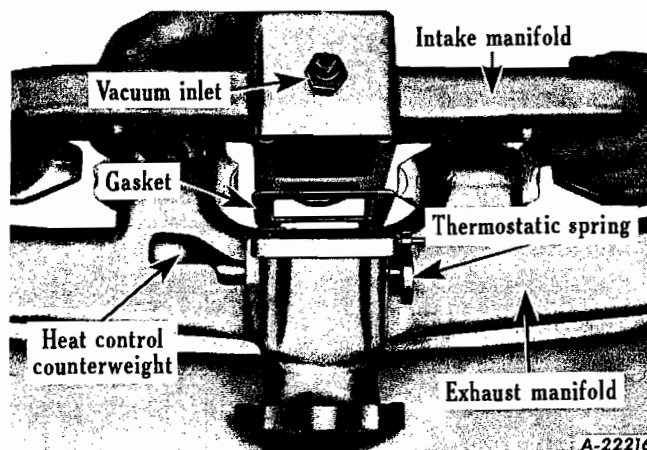

Fig. 42
2. To separate the two manifolds, remove the two outside capscrews and two inside nuts from the center of manifolds (Fig. 42).